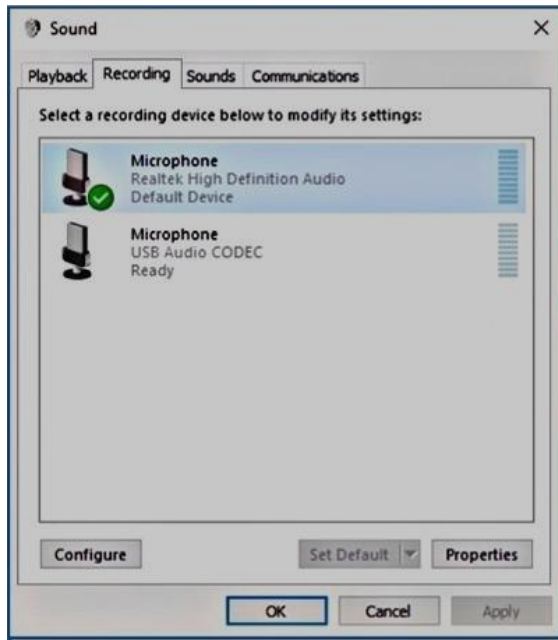

Figure 3 - Sound window Recording tab
- In the "Sound" window, select the "Recording" tab as shown below in Figure 3.
- With your computer's microphone selected (it should be highlighted), click the "Set Default" button to set your computer's microphone as the default recording device. Your computer's microphone should now have a green check mark next to it as shown in Figure 3 above. Click OK to save the changes and close the Sound Window.